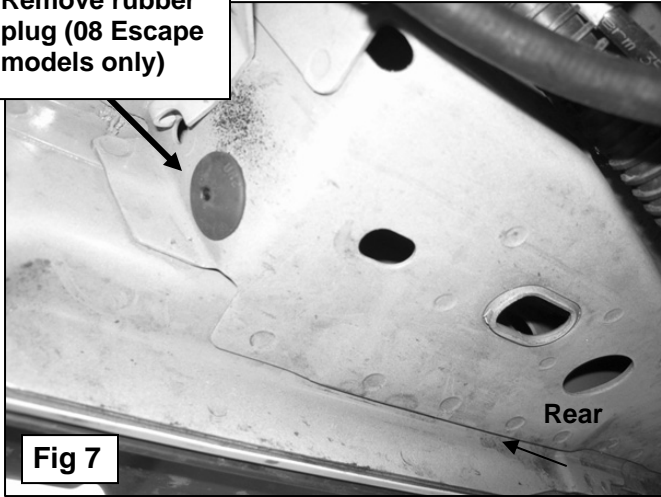

Fig 7
7. Moving to the rear of vehicle, locate the three holes in the floor panel next to the pinch weld. Remove the factory rubber plug if equipped, **(08 Escape only)**, facing the rear of the vehicle, **(Figure 7)**.